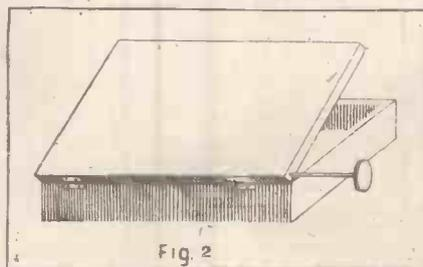

Fig. 2
Assuming that the reader has adopted the suggestion regarding the receptacles for the basket coils, the method of making these will be explained. Using  $\frac{1}{4}$  3-ply wood, construct two boxes 5 in. square and  $1\frac{1}{2}$  in. deep, and hinge the lid as shown in Fig. 2.
This can be better seen than described, perhaps, and Fig. 2 (A) shows diagrammatically three condensers joined together in parallel.
If the three condensers are joined in series as shown in Fig. 2 (B), the resultant total capacity will be found to be less than that of any one of them taken separately, and is arrived at from the formula:
The skeleton plan Fig. 2 (last week's article) showed a scheme for controlling a
Fig. 2 shows a model shunt-wound electric motor which clearly shows the field magnet and armature windings connected in parallel.